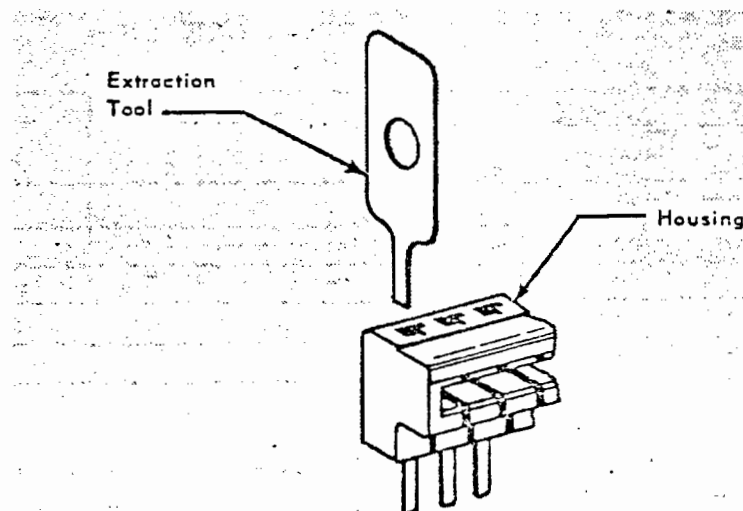

Fig. 2
- (b) Pull Contact out thru bottom of Housing. See Figure 2.